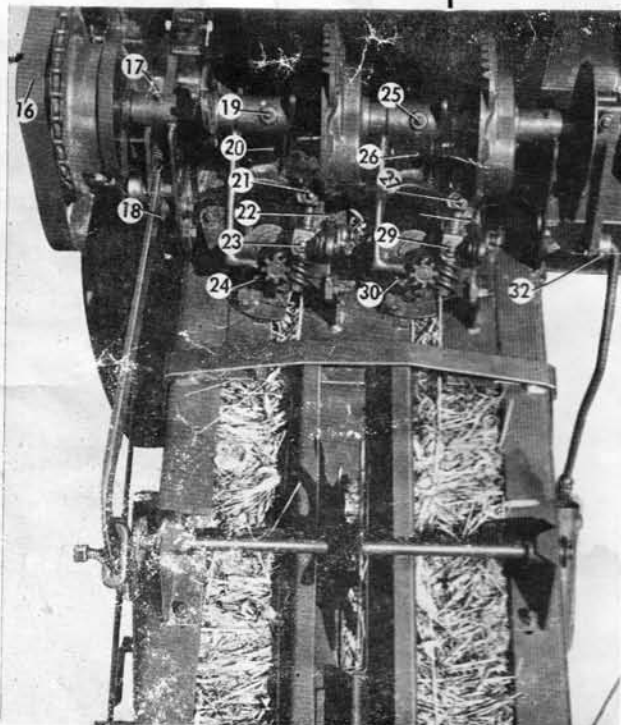

FIGURE 7
16. to 32. Figure 7—Knotter assembly
33. Figure 7—Left needle yoke pivot
34. Figure 7—Right needle yoke pivot